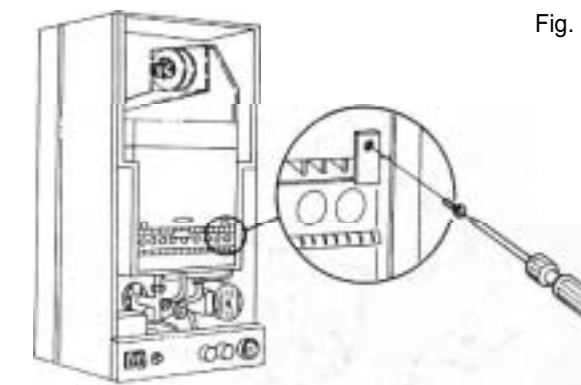

Fig. 74
7.15.5 Remove the two screws securing the main burner to the combustion chamber (Fig. 74).